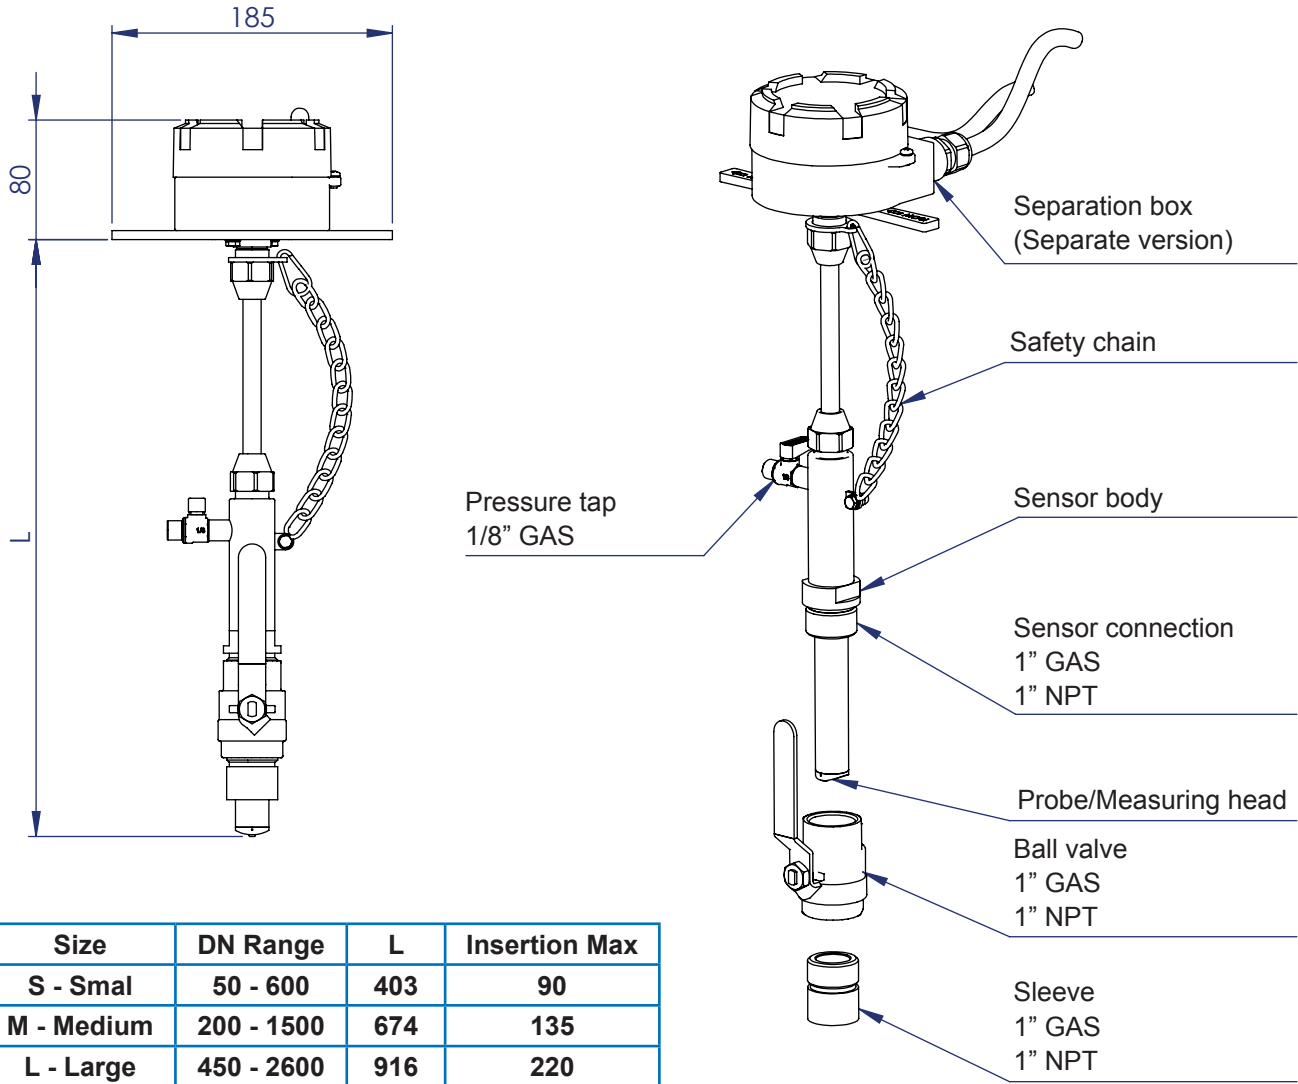

Fig. 63
- »  $L$  = Flowmeter length according to the table of Fig. 63